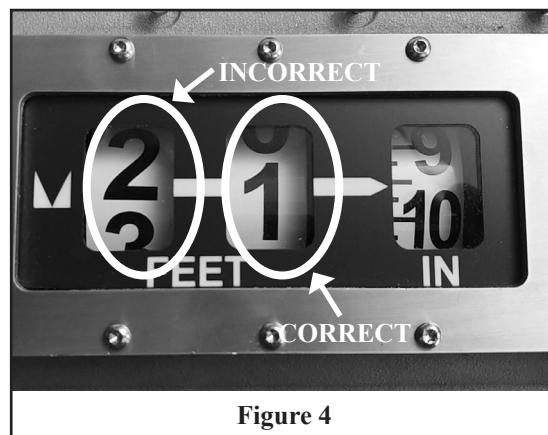

Figure 4
Once at the correct setting, slowly let indicator wheel seat back into the drive gear. Failure to follow this procedure can cause damage to the internal mechanism and render the gauge inoperable. **Note: desired level reading needs to be in the center of the viewing window.** (See Figure 4 (next page))
15. Reinstall the front cover, the correct settings should be clearly centered in viewing windows, as shown in Figure 4 (next page). If needed, adjust the indicator wheels.